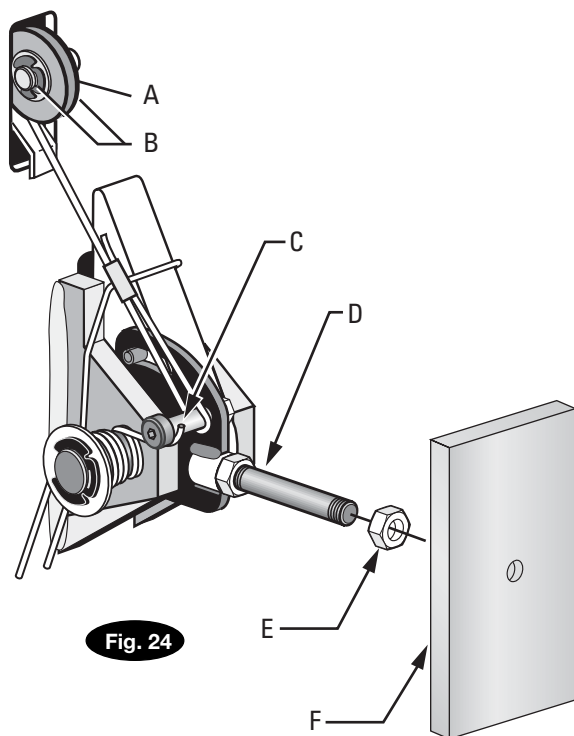

Fig. 24 Detail
- Slip loop end of cable over end of shoulder screw on right side latch control plate, Fig. 24.
- Feed the other end of the cable through the latch cable sheave slot making sure that the cable is running between the bottom side of the latch cable sheave and sheave cover then inside the right column, Fig. 24.
- J) At this point you **MUST** install the latch handle, jam nut, and right column latch cover Fig. 24 & Fig. 27. Install latch handle ball, Fig. 27.